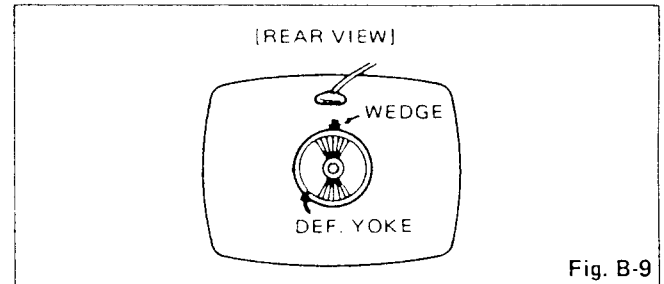

Fig. B-9
2. Adjust the convergence around the edges of the picture tube by tilting the yoke, up-down and left-right, and temporarily install one wedge at the top of the yoke. (Fig. B-9, 10, 11).